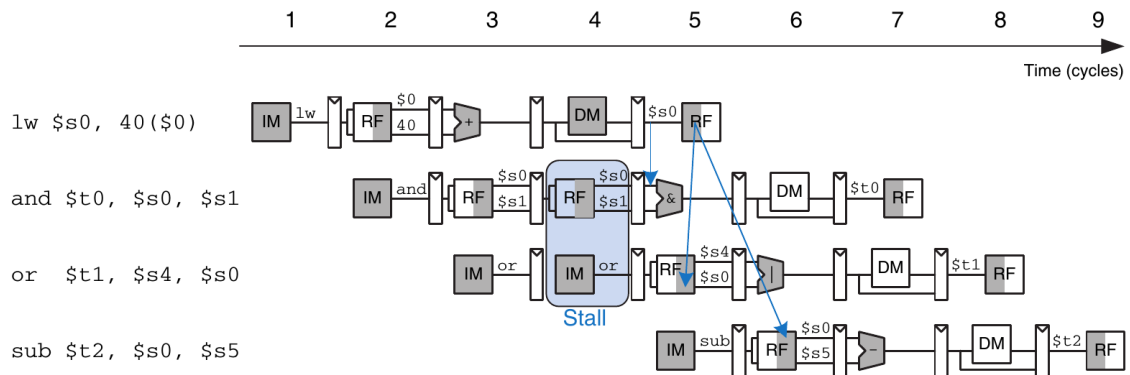

Figure 4: Pipeline diagram to stall hazards
14. Using a diagram similar to Figure 4, show the forwarding and stalls needed to execute the following instructions on the pipelined MIPS processor.